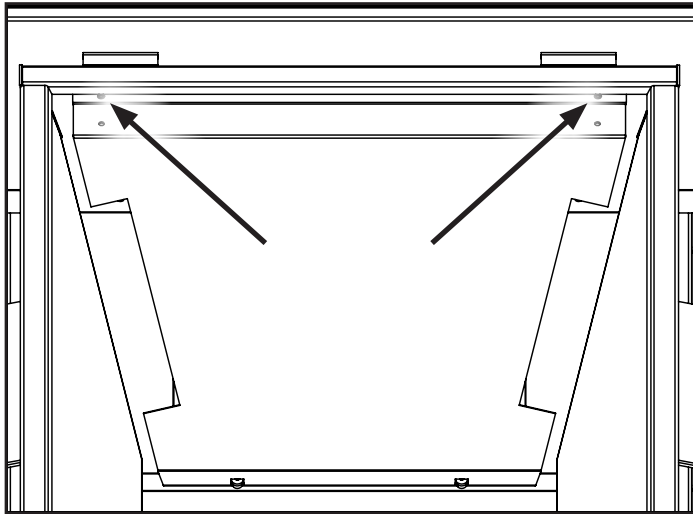

Figure 65: Baffle Screws
2. Remove the firebox baffle by unscrewing the two screws indicated in Figure 65 using a T20 screwdriver. Lower the front of the baffle down and then lift it out of the two locating screws at the rear of the firebox.